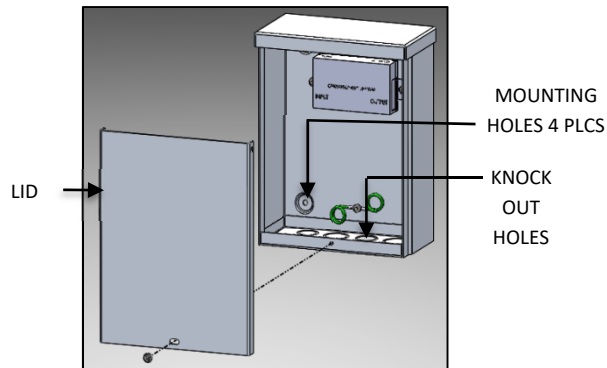
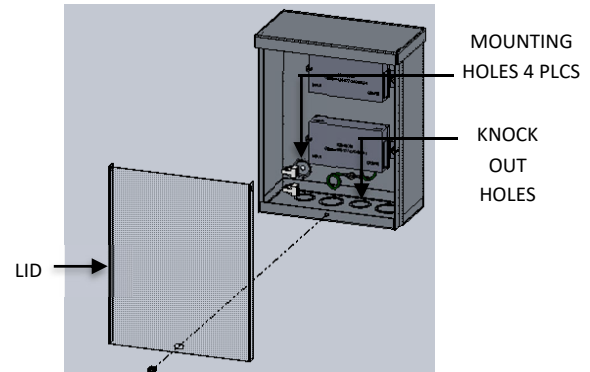

FIG. 7 – REMOTE DRIVER BOX ASSEMBLY FOR 24 & 36 MODELS
FIG. 8 – REMOTE DRIVER BOX ASSEMBLY FOR 48, 60 & 72 MODELS
2. Remove the lid of the REMOTE DRIVER HOUSING as shown in FIG. 7 and FIG. 8 below.